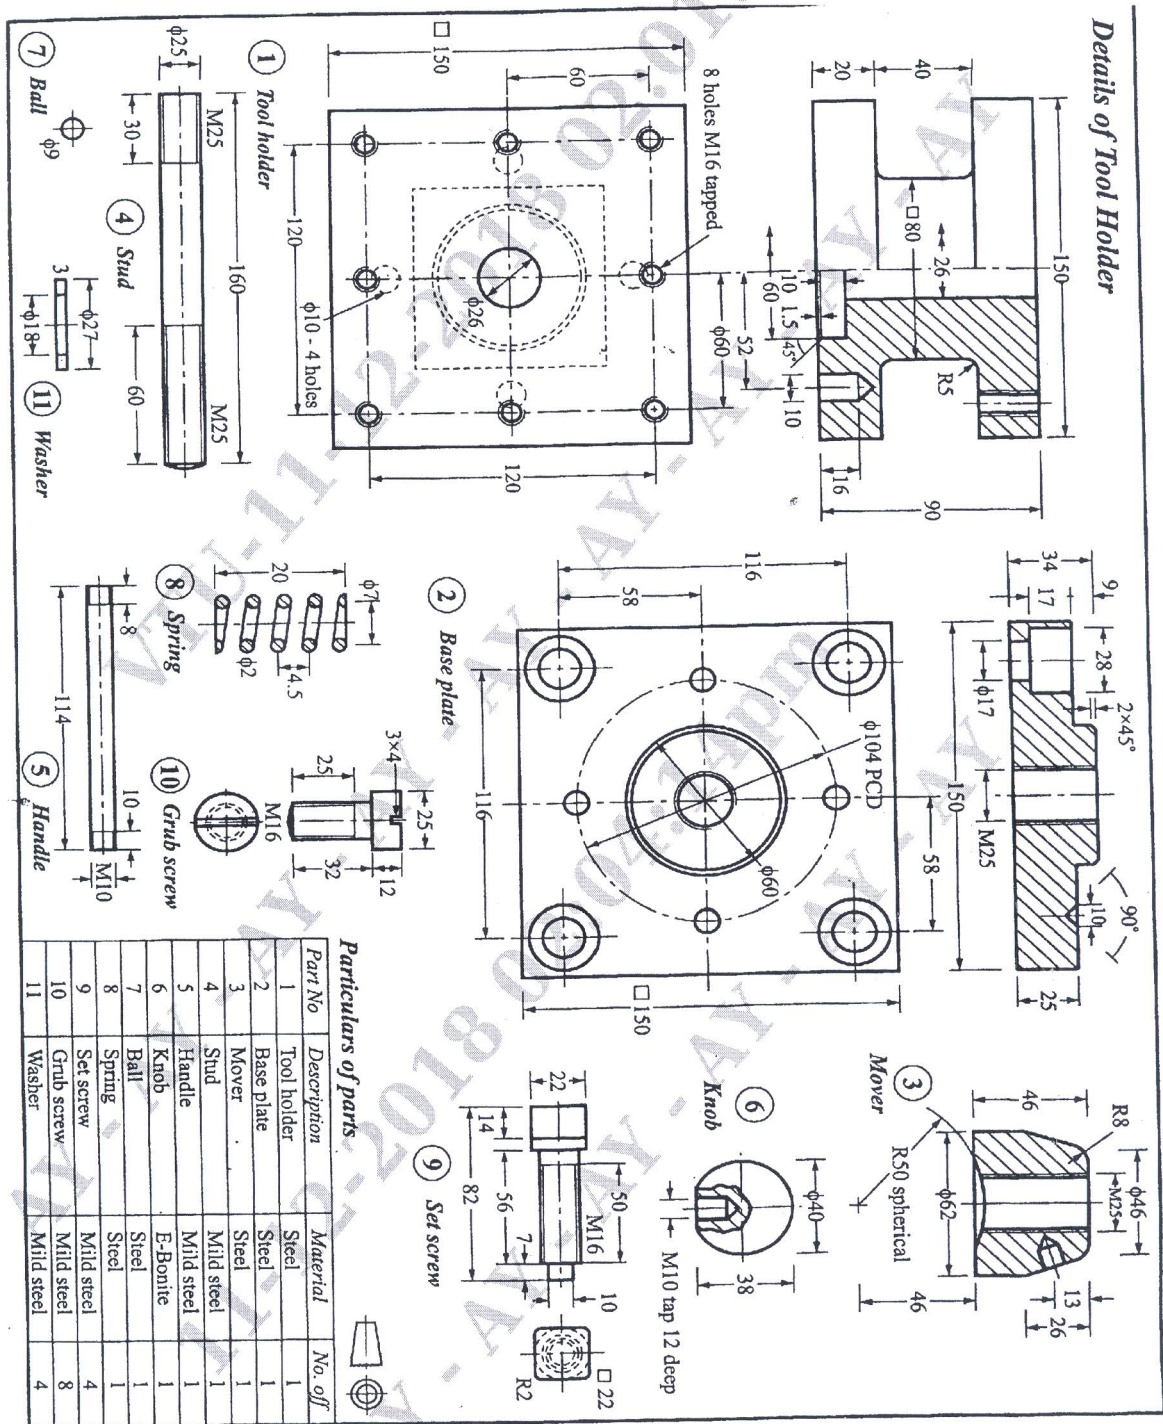

Figure 2 : Details of a "lathe square tool post"
- Q.No.5** Figure 2 shows the details of a "LATHE SQUARE TOOL POST". Assemble the parts and show the following views.